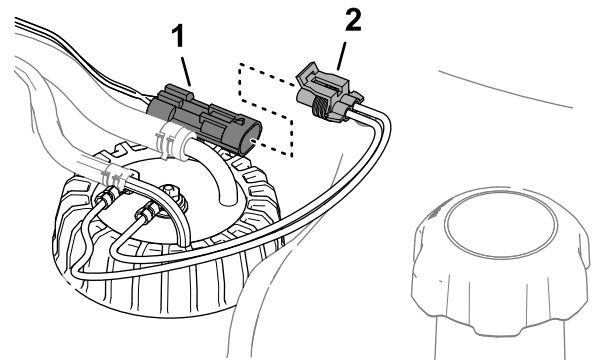

Figure 92
6. Plug the connector of the fuel-sender harness into the connector of the machine wire harness (Figure 92).